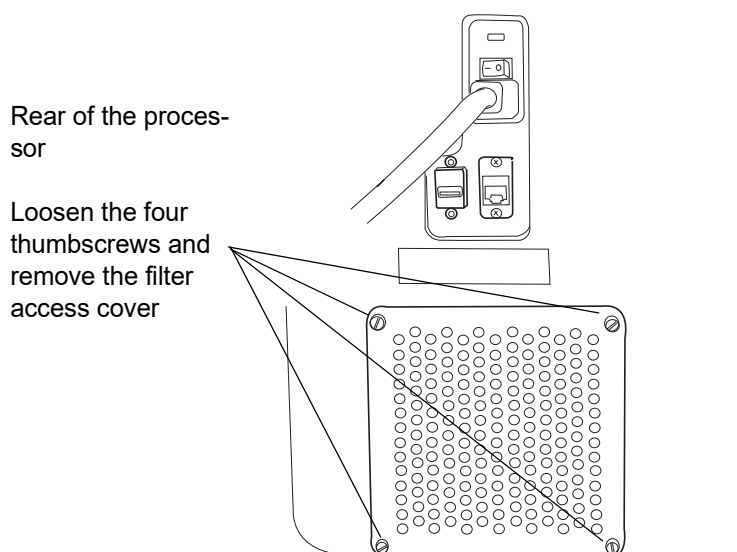

Figure 4-9 Remove the Filter Access Cover
1. Unscrew the thumbscrews that hold the access cover in place. Set it aside. (Refer to Figure 4-9.)